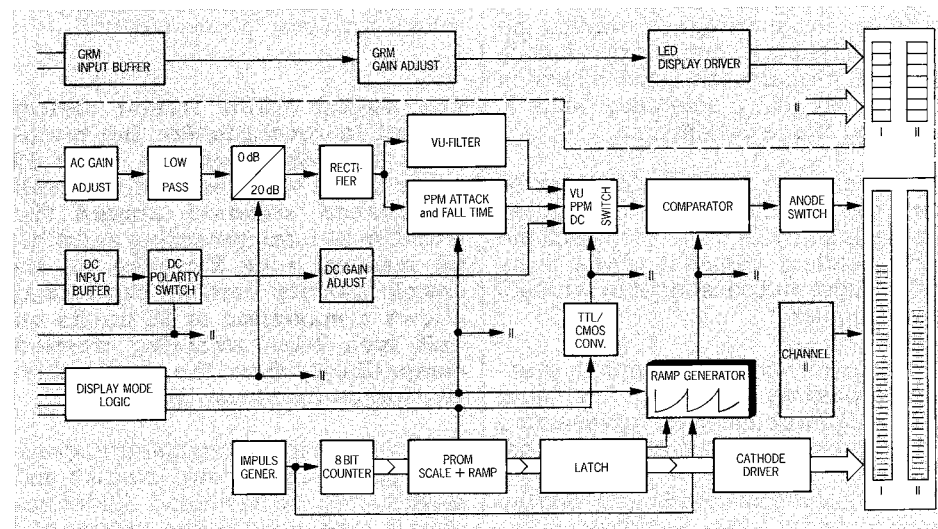

Fig. 3: Simplified block diagram for channel I
**Analog electronics.** The audio section is shown in the block diagram (Fig. 3). The isolated AF signal is taken to the level stage; the large working range permits the connection of almost any level. For very small levels a + 20 dB amplifier is provided. The low-pass filter of the 3rd order attenuates frequencies of over 20 kHz. This circuit is followed by a rectifier stage that compensates very carefully with respect to the offset voltages.